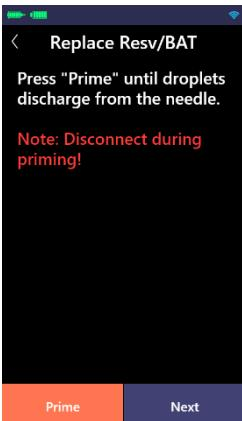

Figure 4.21
**(3)** Prime. Press or click "Prime" until droplets discharge from the needle, then click "Next" (as shown in Figure 4.21).